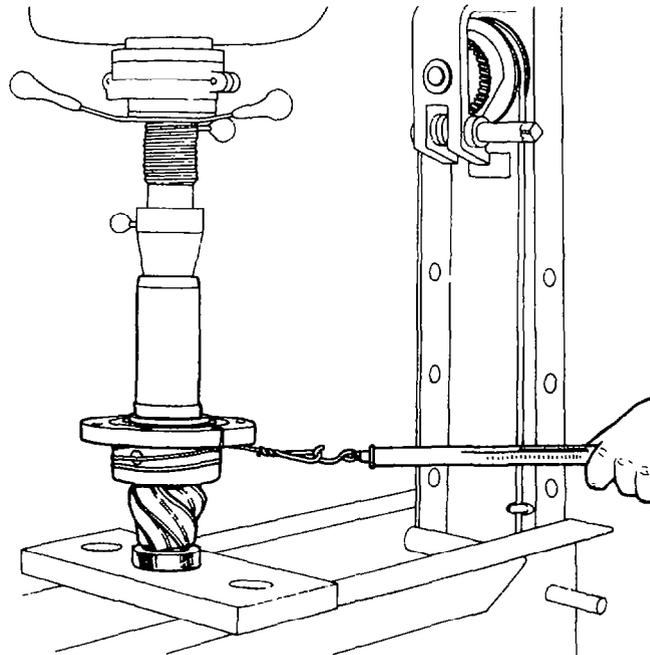

Fig. 356 — Checking Pinion Bearing Pre-load
- f. Wrap a cord or soft wire several times around the pinion bearing cage (item 40) and connect a spring scale to one end of the cord. Pull on the spring scale using a steady, even pull until the pinion cage starts to rotate (see fig. 356). The reading on the spring scale should be 3 – 6 kg (6 – 14 lb). If the pre-load is incorrect, use a thicker spacer to decrease the pre-load or a thinner spacer to increase it. Always use the correct size spacer, do not use a shim to increase the spacer thickness.